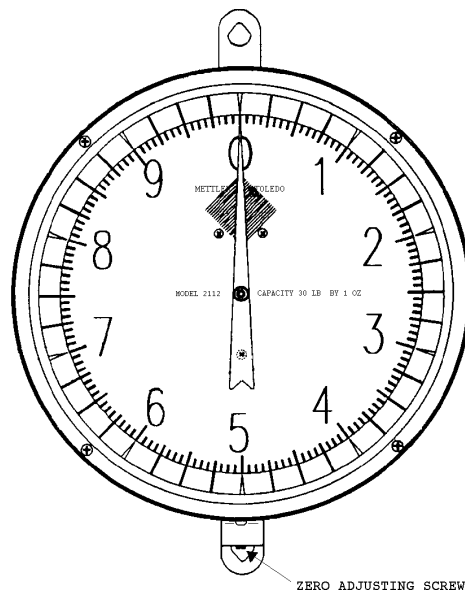

FIGURE 3
2. Adjust the indicator to zero graduation on the chart by turning the zero adjustment screw, Figure 3. Depress the pan several times and recheck the zero indication. Always depress the commodity pan to full capacity and recheck zero after adjusting zero screw.